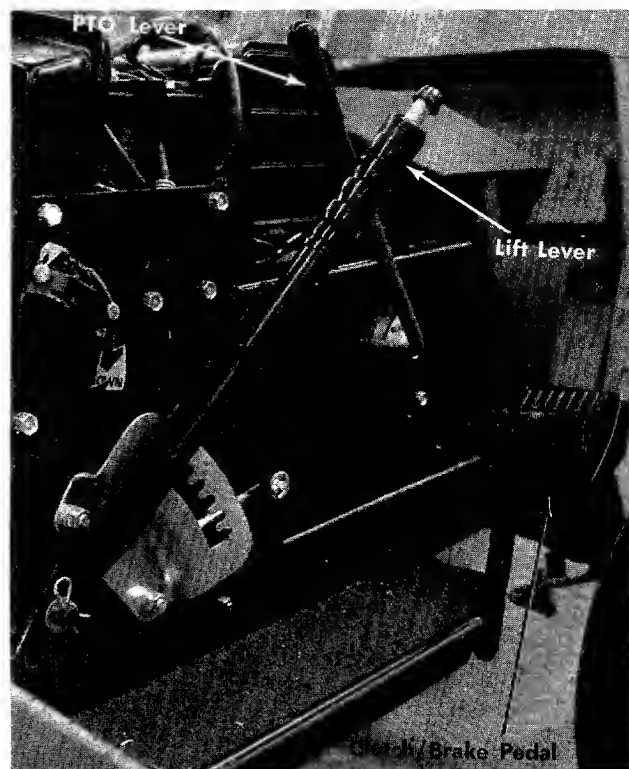

FIGURE 20. CONTROLS
e. **PTO Lever.** The PTO lever engages the deck belt when it is moved forward. Moving it to the rear disengages the deck belt. The engine will not start unless the PTO is in the OFF position as shown in figure 20.
f. **Lift Lever.** Depress the thumb button and pull back on the lift lever to raise the attachments. See figure 20.
- Step 3. Place the PTO lever in the OFF position as shown in figure 20.
- Step 4. Depress the clutch brake pedals all the way down. See figures 20.
Step 8. Lower the cutting deck with the lift lever. See figure 20.
Step 9. Slowly engage the PTO lever. See figure 20.
Move the PTO lever towards you to stop the blades from turning. See figure 20.